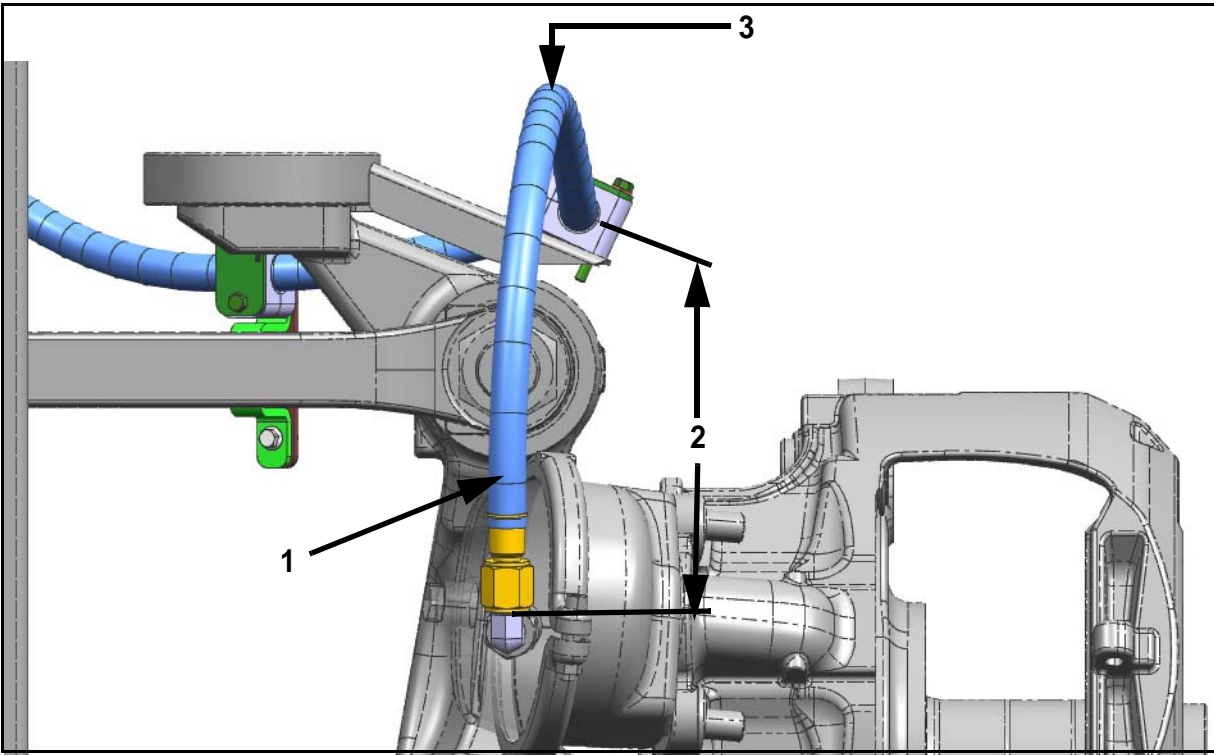

Figure 11.
18. Starting at the front brake chamber, route the front brake hose assembly to the first brake hose bracket (refer to Figure 11). Using the existing mounting hardware, mount (fingertight) the clamp assembly to the brake hose bracket.
20. Using a measuring tape, ensure that the front brake hose length is the 22.00 inches between the bottom of the swivel fitting to the inside face of the clamp as shown in Figure 11. Tighten clamp to secure in position.
Item	Figure 11 Description